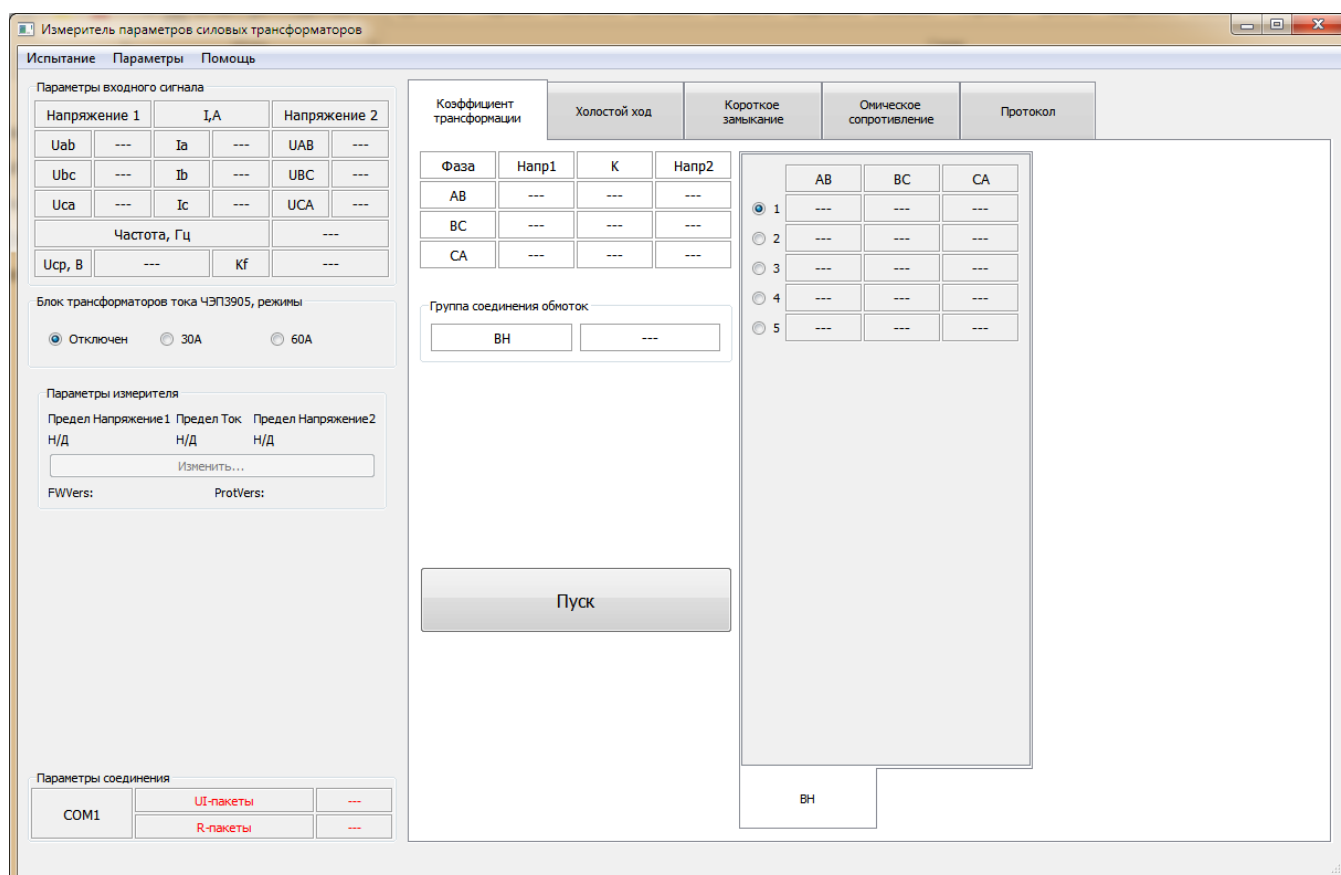

Fig. 6. The Software Main Working Window with the 'Tests' Panel.
3) In the ‘Tests’ dialog box section, mark the tests to be performed. Then click ‘Create’. As a result, a working panel will be created with the required set of tabs to record the test results. An example is shown in Fig.6.